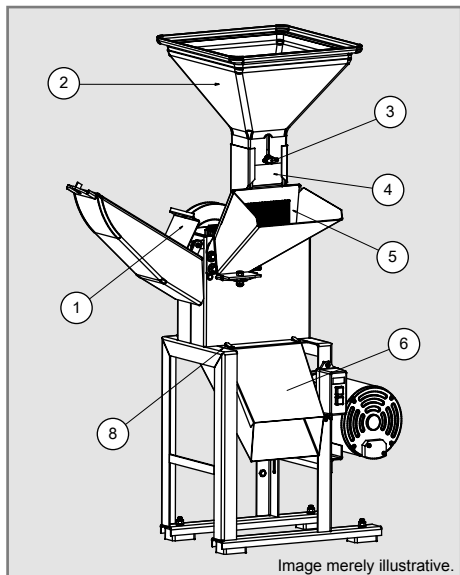

Fig. 1
- ✓ Fit the cover plate (1), according to figure 1. Except for models TRF 50, TRF 60 and TRF 70.
- ✓ Mount the green crop funnel cover (5) according to figure 1.
- ✓ The dry product is placed in the grain funnel (2), from where it is directed to be processed, the final product being poured in the material output funnel (6). Place a container or a raffia bag under the material output funnel (6) in order to collect the crushed material, according to figure 1. In models TRF 50, TRF 60 and TRF 70, the material will get out from the machine through the lower part of the shredder body (7), and
- ✓ The TRAPP shredders are provided with a support to fit a raffia bag or another type of container in order to facilitate the crushed material collection, as indicated (8), according to figures 1 and 2.
- ✓ Be careful **not to overload the motor**. Regulate the grain input adjuster according to the shredder's capacity to grind and to the strainer chosen. The regulation of the grain input adjuster is done in the following way: loosen the wing nut (3) located underneath the grain input adjuster. Once the regulator (4) is free, pull in case you need a bigger opening, and push in case you need a smaller opening. After regulating, tighten the wing nut (3), according to figures 1 and 2.